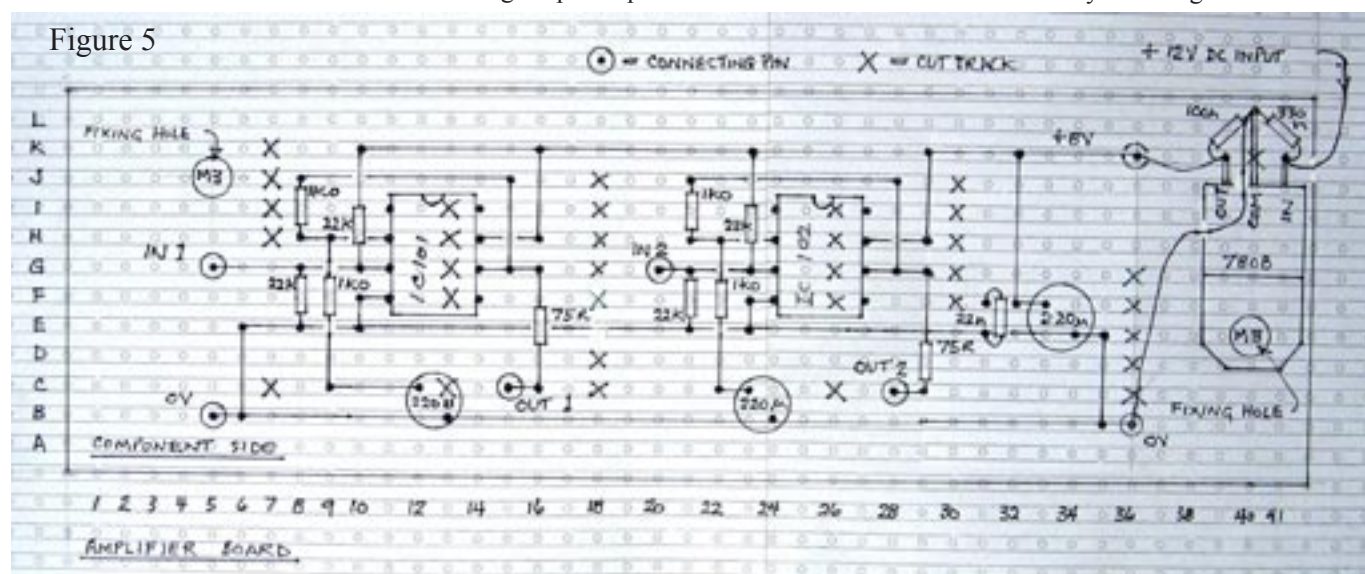

Figure 6
The positions of the connecting pins are shown in Fig.6.
- Fig.6. PC Board modifications